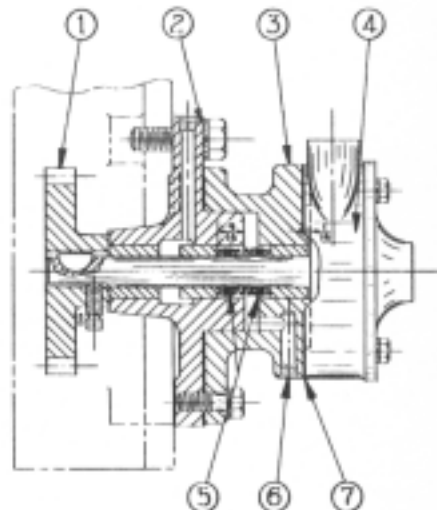

FIG. N-1
The fuel transfer pump, which is mounted on the gear casing just below the governor, is illustrated in Fig. N-1. It is an internal gear type pump, similar to the lubricating oil pump, and is driven from the camshaft gear.
Referring to Fig. N-1, the fuel pump assembly, consisting of pump (4), adapter (3), and bearing (2) is bolted to the end of the gear casing. The bearing is located and doweled to the gear casing to allow .004" - .006" backlash between drive gear (1) and the camshaft gear. End clearance for the pump rotor should be from .001" to .003", and is determined by the thickness of gasket (7). If replaced, measure the old gaskets with a micrometer and replace with exactly the same thickness. The pump shaft rotates on bronze bushings pressed into the bearing and adaptor, and if replaced the new bushings must be reamed to .6250" - .6255" diameter after pressing in and with the two pieces bolted together. The bushings must be located in the bores in accordance with the dimensions given in Fig. N-1 in order to allow the correct space for oil seal (5). The two bushings in bearing (2) are pressure lubricated from the engine oiling system and the bushing adjacent to the fuel pump is lubricated by fuel oil. The oil seal prevents leakage of fuel along the shaft, and any slight leakage past the seal drains off through hole (6). This connection may be piped off to a drain pan if desired, but should never be plugged, as the fuel oil may then be forced through into the engine and will dilute the lubricating oil.